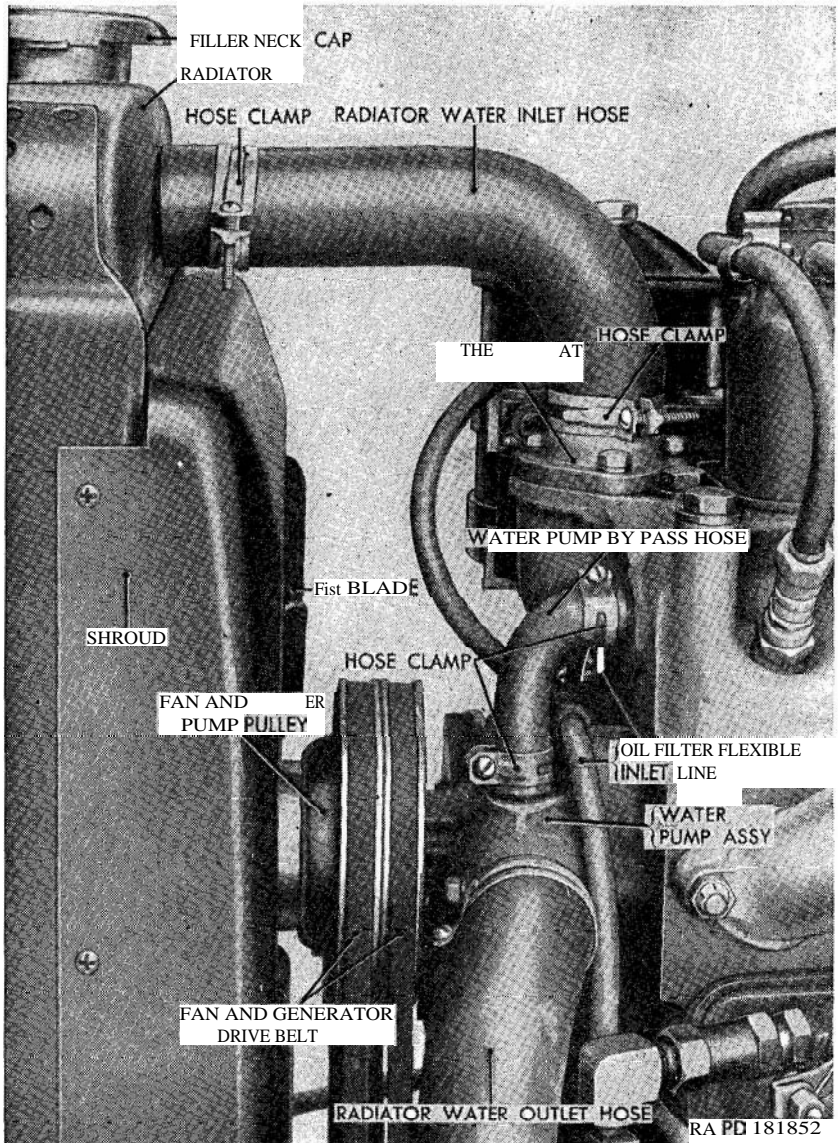

Figure 60. Cooling System.
a. *Description.* The cooling system (fig. 60) includes the radiator, fan, water pump, water temperature thermostat, fan and generator drive belts, and connecting hose and fittings. The radiator is the cellular-type with upper and lower tanks. A pressure-type filler neck cap permits cooling system pressure to rise to 41½ psi. The four-blade fan and the centrifugal-type water pump are driven from the generator drive pulley by a matched pair of V-belts. The water temperature thermostat is a bellows-type, located on top of the cylinder head in the thermostat housing. With the coolant below normal operating temperature (160° to 180° F.), the thermostat blocks coolant return to the top of the radiator, returning the coolant directly to the pump through the water pump bypass.
- (1) Drain the cooling system (par. 127a (1) ) and remove the radiator guard (pars. 257a for the M38A1 and 266a for the M170).
- (2) Loosen the hose clamp screws on the radiator water inlet and water outlet hose (fig. 60) and pull hose from connections on radiator.
- (3) Lift the radiator with shroud assembly off the radiator-to-engine support rods, taking care that the radiator core does not rub against the fan blade.
(fig. 60)
#### *a. Removal (fig. 60).*
- (1) Place the fan and water pump pulley on the end of the water pump shaft and press it onto the shaft until the front face of the pulley hub is flush with the end of the shaft.
- (2) Make sure the gasket surfaces of the cylinder block and water pump body are clean and free of rust or scale. Place a new gasket on the water pump body with the gasket holes alined with the bolt holes in the water pump body.
- (3) Position the water pump assembly (*fig. 60*) in the opening in the front of the cylinder block, at the same time, sliding the water pump bypass hose with clamp over the connection on the water pump.
- (4) Insert a  $\frac{5}{16} \times 2\frac{1}{2}$  screw, with lockwasher, through the hole in the water pump body inlet opening. Start the threads but do not tighten. Insert a  $\frac{3}{16} \times 7/8$  screw, with lockwasher, into the top mounting hole in the water pump body and through the clip securing the flexible oil line to the cylinder block, and start the threads. Insert two  $\frac{3}{16} \times 7/8$  screws, with lock-
- (5) Place the fan on the front of the fan and water pump pulley with the concave side of the blades toward the engine. Secure the fan blade to the pulley with four  $\frac{1}{4}$  x  $\frac{3}{8}$  bolts and lockwashers.
*a. Removal.* Drain the cooling system (par. 127a (1) ) sufficiently to lower the level of the coolant below the thermostat housing. Remove the three screws and lockwashers securing the thermostat housing (fig. 60) to the cylinder block. Lift the end of the radiator water inlet hose, with thermostat housing and gasket attached, from the